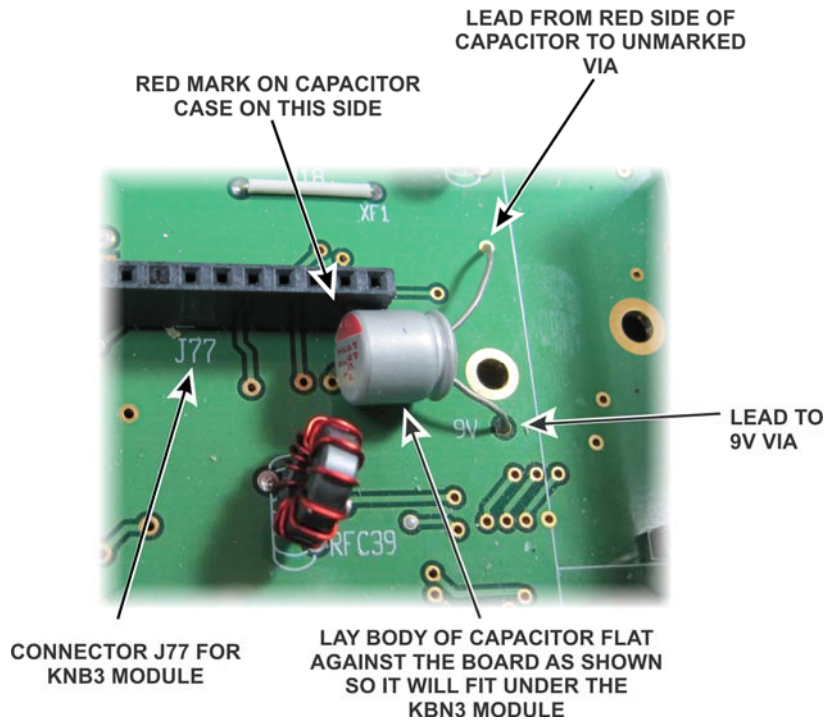

Figure A- 4. Mounting the Poly Capacitor on the K3 RF Board.
- Install the poly capacitor on the main board as shown in Figure A- 4. Bend the leads so the capacitor lays against the pc board next to J77 as shown so it will fit under the KNB3 module. The capacitor case is covered with a thin clear insulation that prevents short circuits. Recommend you solder from the bottom side of the board. Clip the leads flush after soldering.